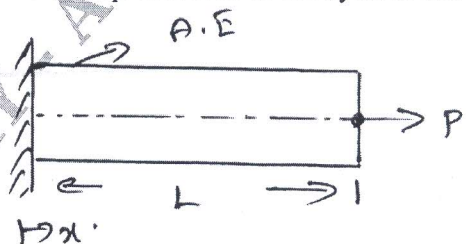

Fig. Q3 (c)
- c. Use Galerkin method, to find the displacement of the system shown in Fig. Q3 (c). (08 Marks)